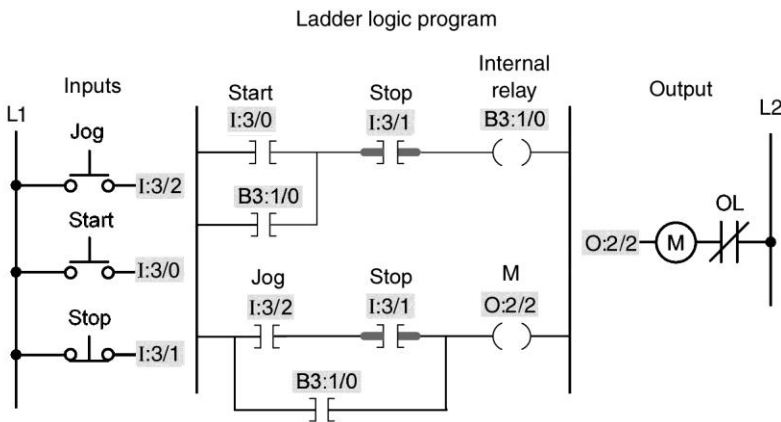

Figure 6-41 Motor jog program for assignment 18.
18) The motor jog program of Figure 6-41 is described in the text. Prepare an I/O connection diagram and ladder logic program for the process. Use addresses that apply to your PLC. Enter the program into the PLC, and prove its operation.